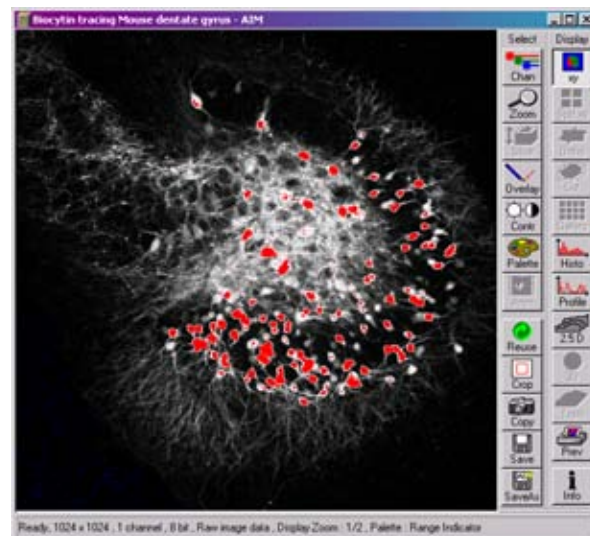

Fig. 18 Image window
- Select **Palette** in the **Image** window of the scanned image (Fig. 18).
The scanned image appears in a false-color presentation (Fig. 18).